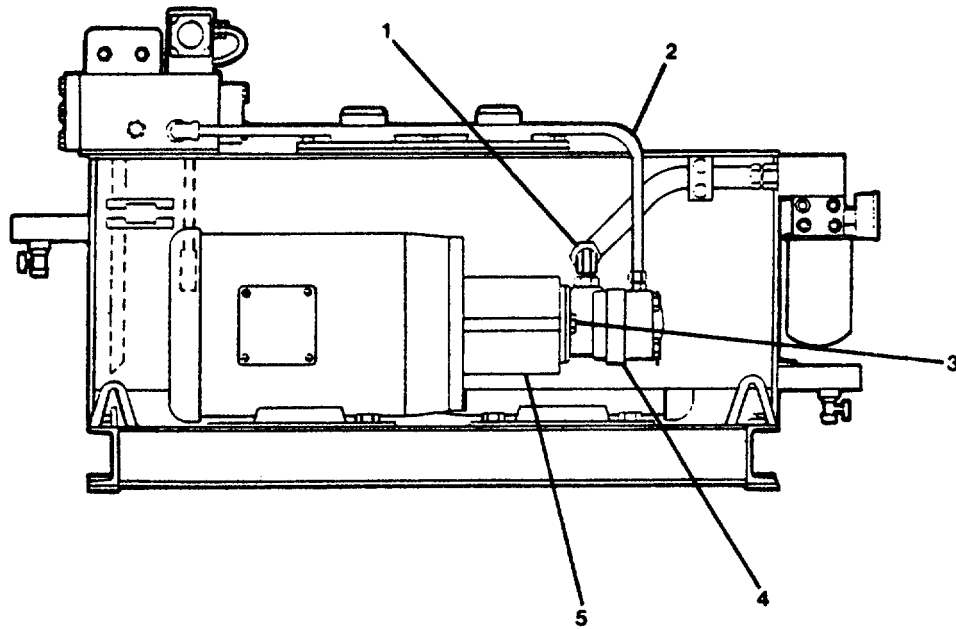

FIGURE 2-8. Remove Hydraulic Pump.
**2-17. Replace Hydraulic Pump. (FIGURE 2-8)**